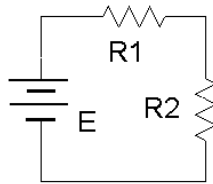

Figure 3A.2
- Figure 3A.1 is a photo of the face of a Tektronix MDO 3000 series oscilloscope. Compare this to the bench oscilloscope and identify the following elements:
6. Build the circuit of figure 3A.2 using  $E=10\text{ V}$ ,  $R_1=10\text{ k}\Omega$  and  $R_2=33\text{ k}\Omega$ . Connect a probe from the channel one input to the power supply (red or tip to the positive terminal, black clip to ground). Connect a second probe from channel two to  $R_2$  (again, red or tip to the high side of the resistor and the black clip to ground).